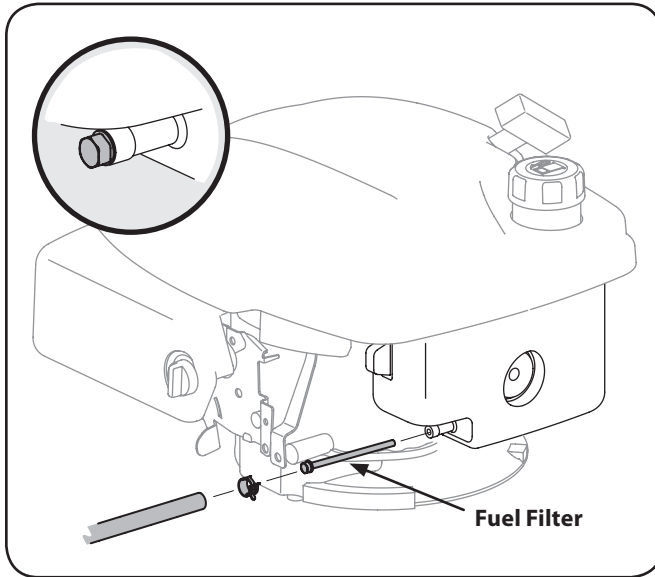

Figure 6-7
2. Remove hose clamp from fuel line and remove fuel line from tank outlet. See Fig. 6-7.